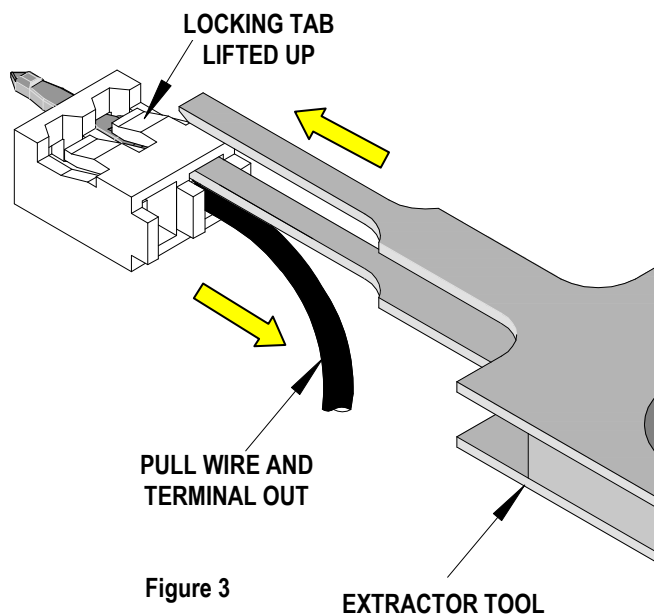

Figure 3
1. Hold the housing with the locking tab facing up. Bend the wire down and insert one of the blades of the extractor tool into the housing under the locking tab. See Figure 3.